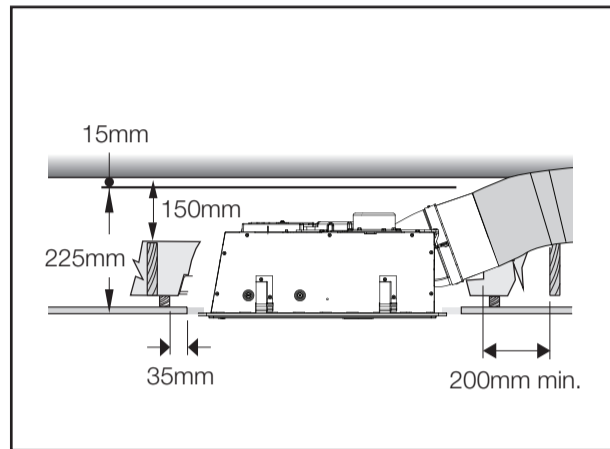

Fig 2a. Minimum clearances for installation.
- from ceiling to lowest point of ceiling cavity: 240mm (to maintain minimum 15mm clearance) (Fig 2a).
150mm (duct diameter) (Fig 2a).
If the desired orientation of the Tastic unit directs the ducting towards a ceiling joist, ensure that the closest ceiling joist is not within 200 mm of the Tastic outlet. (Fig 2a).